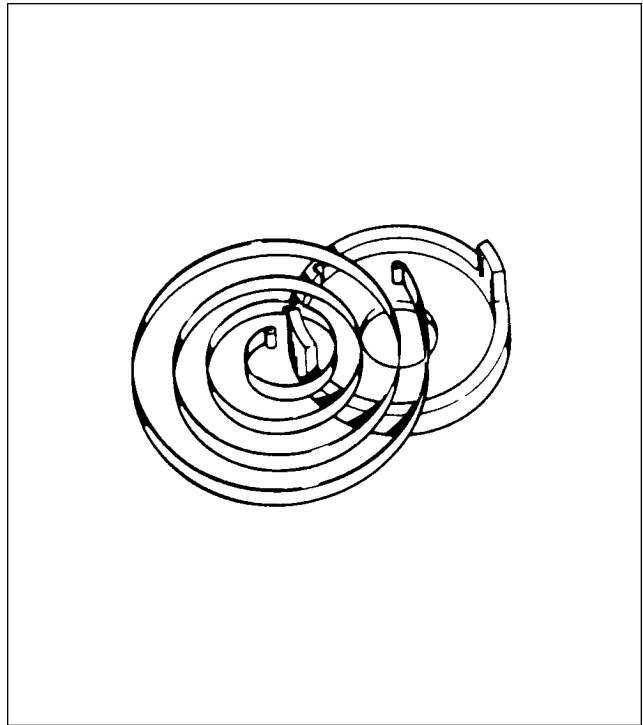

Figure 74-18. Orientation of Spring
4. Orient spring with body for correct rotation. On clockwise couplings, spring must coil in a clockwise direction from outside toward center when viewed from spring recess side of body. (Refer to figure 74-18.) Insert eye of outer end of spring into hole drilled in inner rim of body.